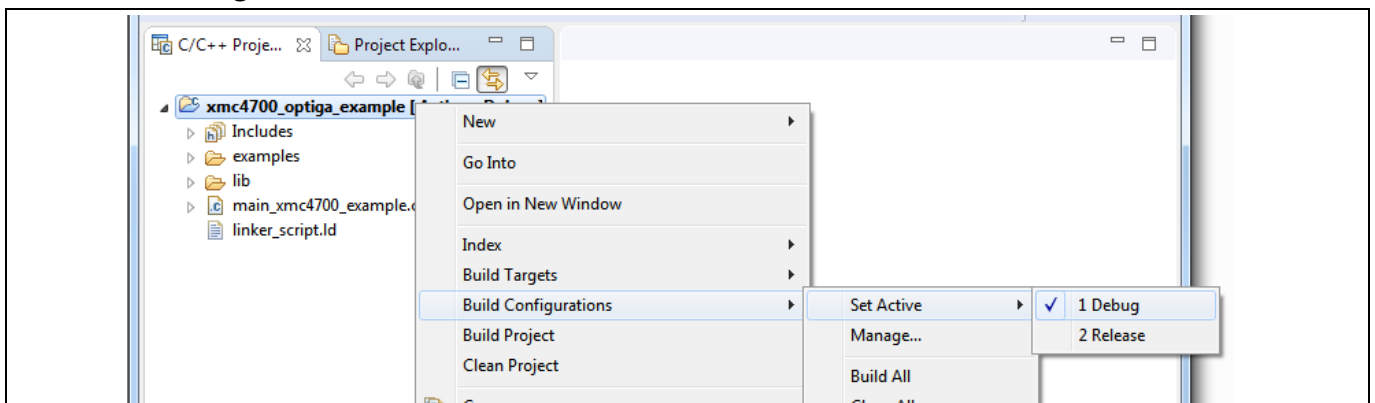

Figure 24 Build configuration selection
- 15. To build project in release configuration, select the build configuration as **Release** as shown in Figure 24 and build the project again.